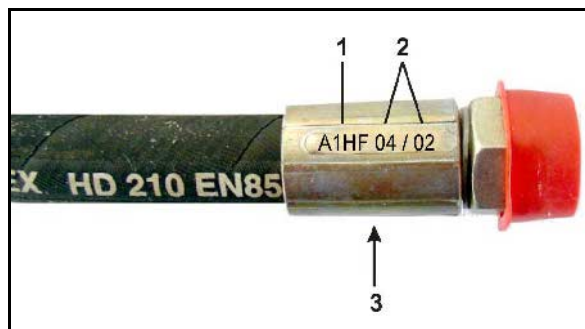

Fig. 184
1. Remove the cover (Fig. 184/1) from the housing (Fig. 184/3).
2. Replace the return filter (Fig. 184/2).